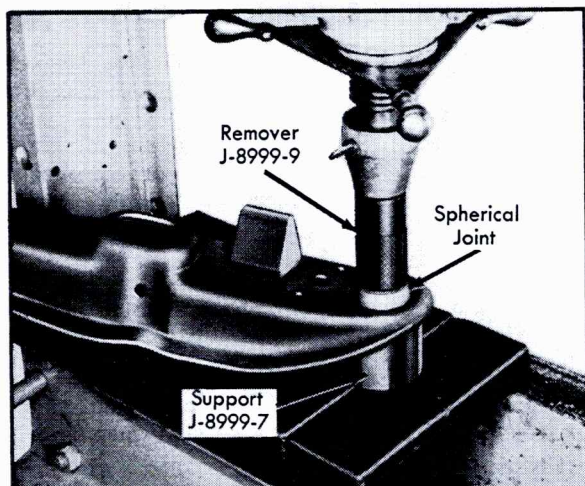

Fig. 3-15 Removing Spherical Joint From Lower Arm
4. Position Spherical Joint Remover, J-8999-9, over joint stud until it seats on joint housing, Fig. 3-15, and press spherical joint out of arm.